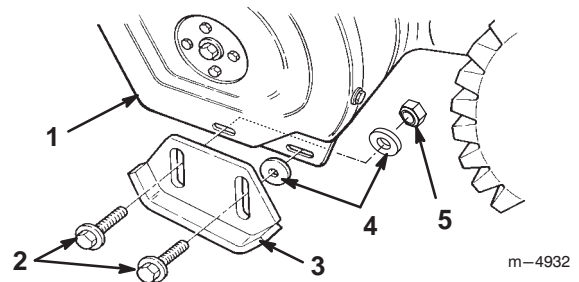

Figure 18
3. Remove the two flange bolts and flat washers that secure the ends of the scraper to the side plates (Fig. 18).
5. Insert a washer *between each skid and the side plate* (Fig. 18). Do not tighten the bolts.
7. Insert a washer and a locknut *behind* (on the inside of) the side plate (Fig. 18). Do not tighten the bolts.